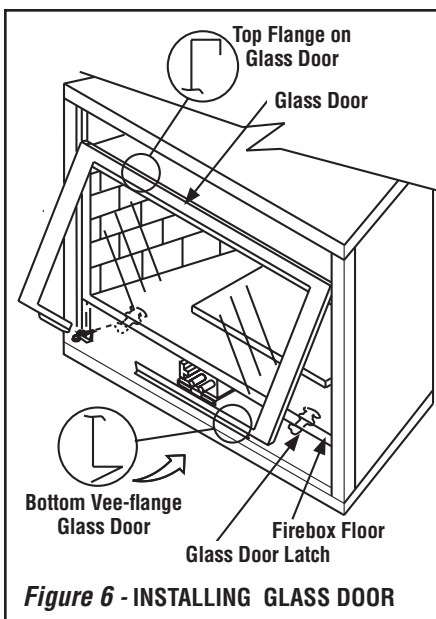

Figure 6 - INSTALLING GLASS DOOR
Removing Glass Enclosure Panels (see **Figure 6**)
Installing Glass Enclosure Panels (see **Figure 6**)
2. Position the glass enclosure panel in front of the firebox opening at a 45 degree angle and engage the top flange over the lip at the top of the firebox opening. **See Figure 6.**